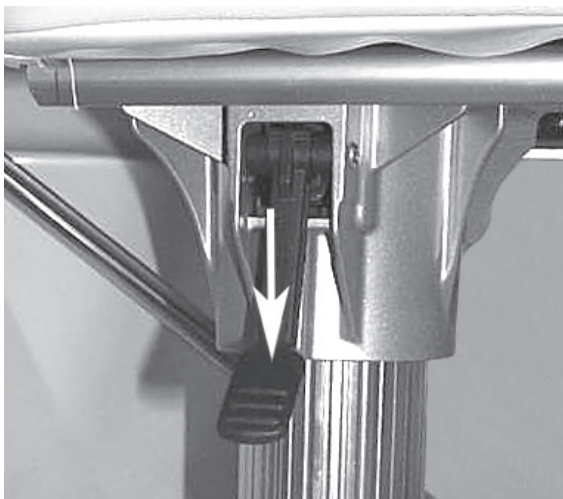

Figure N10: Rotate Handle - Locked Position
4. Rotate the seat inboard (towards the center of the boat) until it faces as far aft as possible or desired. Once in position, release the handle. To lock, slightly rotate seat until handle clicks and hardware locks securely into position. See Figure N10.